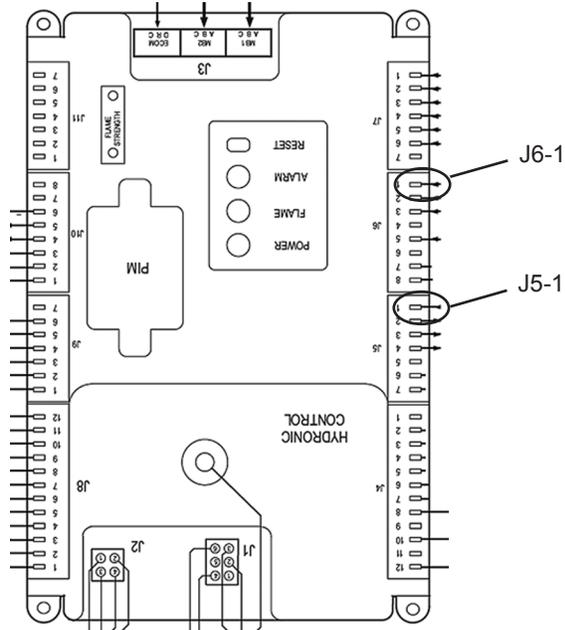

Fig. B1-7 - Checking the safety switches
11. If you see 24V AC at J8, this means that all of the switches in the safety chain are satisfied. The blower should run, and then the pressure switch should close, allowing the ignition sequence to start. To check the pressure switch, check for continuity (no resistance) between terminal 1 on J6 and terminal 1 on J5 on the control module. See Fig. B1-7.